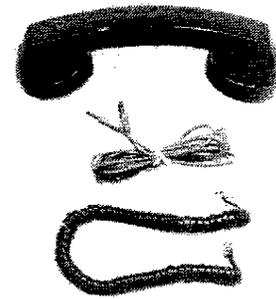

Fig. 14 - Modified Phone Handset
5.03 The Modified Phone Handset (figure 14) of the features of the Standard Handset, but it also includes a miniature phone jack and an interconnect cord to permit direct connection to a cassette player or other audio source. The jack automatically disconnects the handset transmitter, allowing recording without noise pickup.